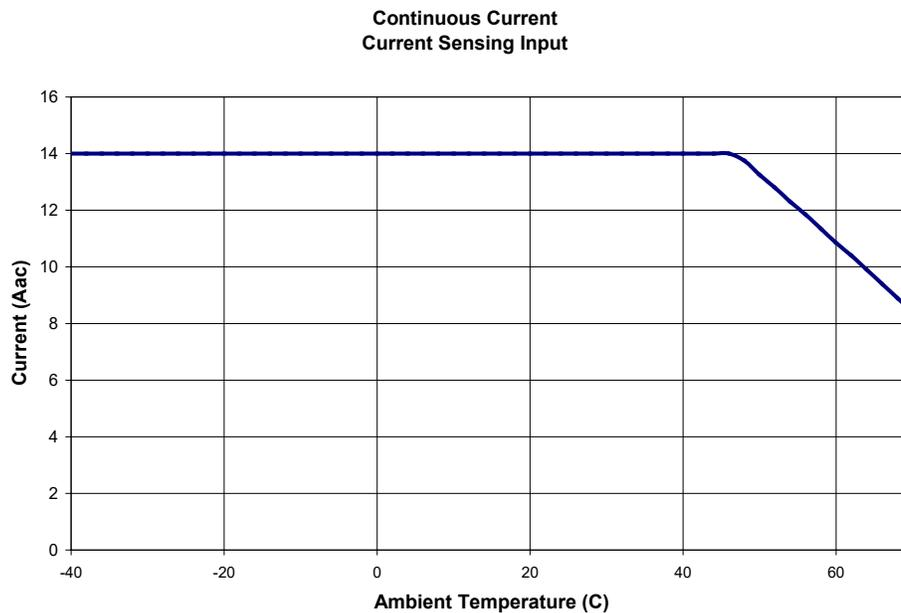

Figure 6-1. Current Sensing Input Derating Curve (BE1-50/51B-244)
* Continuous rating is 14 Aac for temperatures up to 45°C. See Figure 6-1 for derating curve.